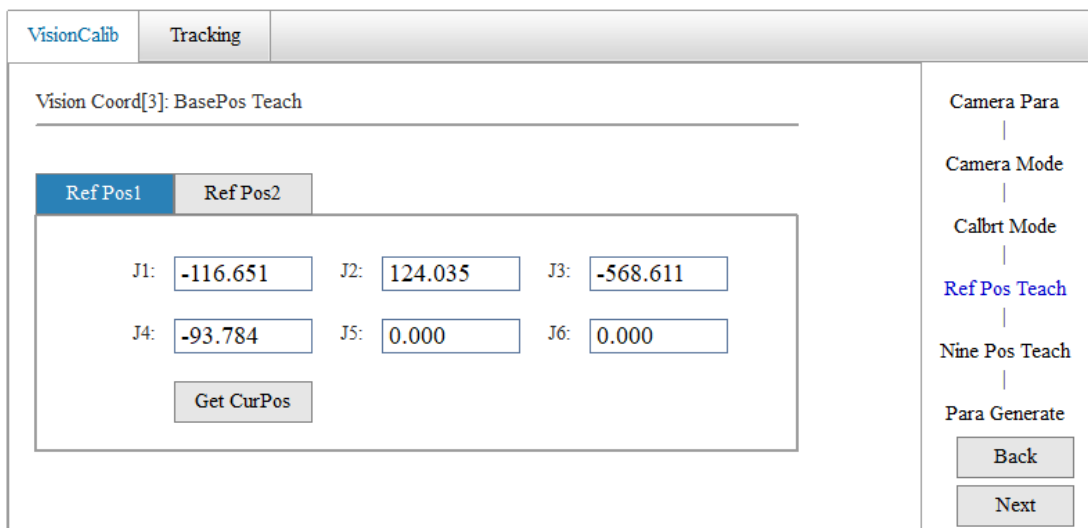
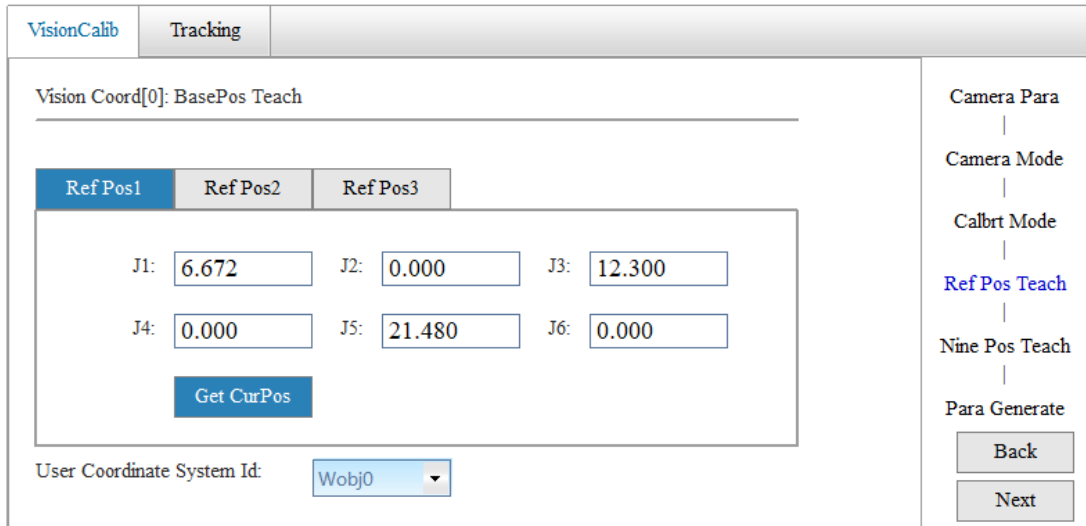

Figure 1
Figure 2
Step 6: Go to the reference point acquisition interface. Figure 1 shows the acquisition of reference points for the SCARA robot, Figure 2 shows the acquisition of reference points for the 6-axis robot reference point. Click **Next** when finished.